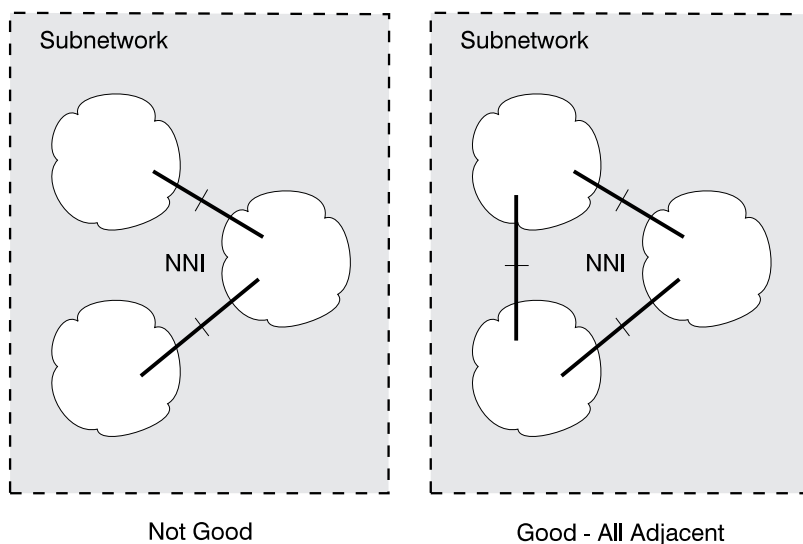

Figure 18. Connections Within a Subnetwork or Campus Network (NNI)
Adjacent Clusters: Due to the lack of dynamic routing on NNI links, all clusters within the same subnetwork **must** be adjacent, as shown in Figure 18.
- Due to the lack of dynamic routing on NNI links, it is recommended that you design networks where all the clusters are adjacent, as shown in Figure 18 on page 37.